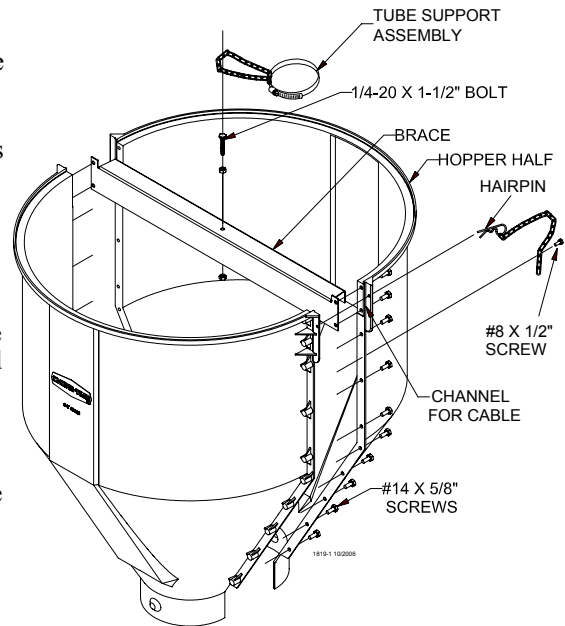

Figure 1.
2. Assemble the 1/4-20 x 1-1/2" bolt to the brace with two 1/4-20 nuts. One nut should be assembled under the brace with the other on top. This bolt is to provide a place for the tube support assembly chain to be hooked. See **Figure 1**.
3. Assemble the 150 lb. hopper halves and brace as shown in **Figure 1**, using #14 x 5/8" screws (supplied in hardware package).
4. Assemble the #8 x 1/2" screws and chain as shown in **Figure 1**.